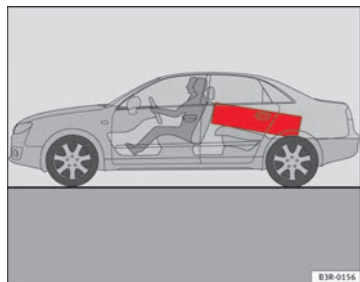

Fig. 115 Position heavy items as far forward as possible.
- Position heavy items as far forward as possible ⇒ fig. 115.